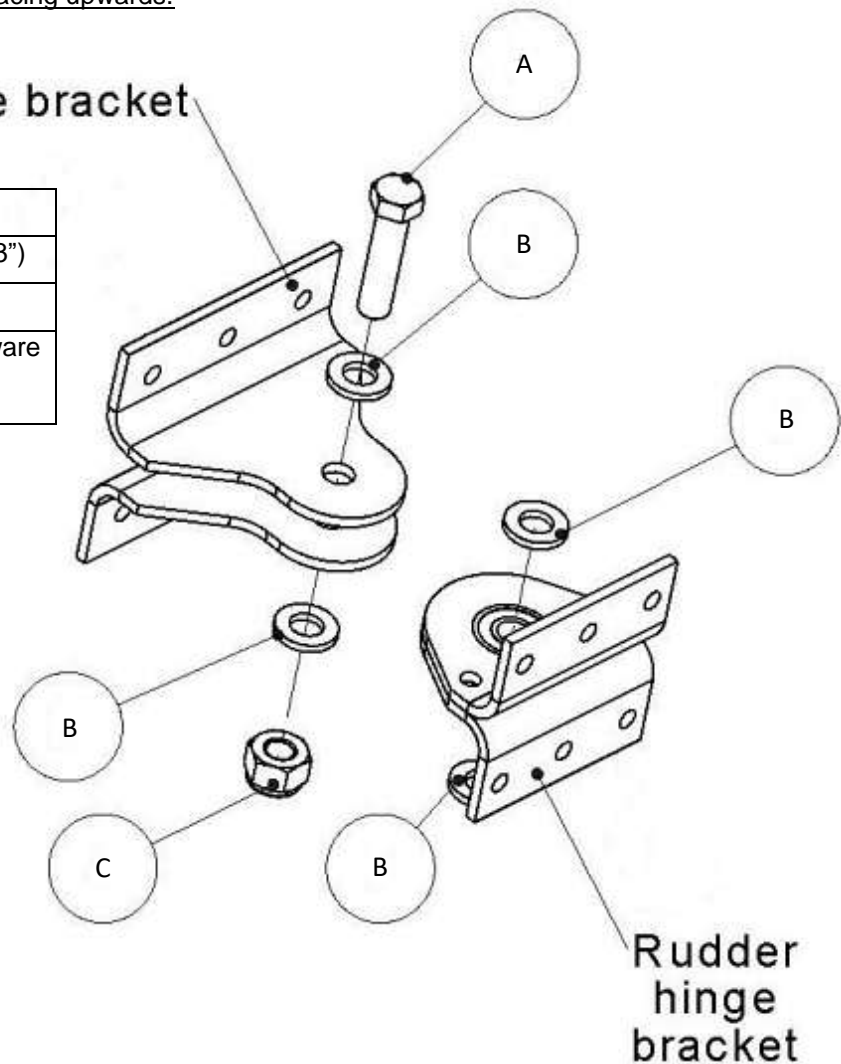

Figure 32: Rudder to vertical stabilizer hinge connection.
- Tighten the lock-nuts on the bolts through the rudder hinges sufficiently, observe the correct placement of washers (refer to Figure 32) and note that the bolts are installed with their heads facing upwards.